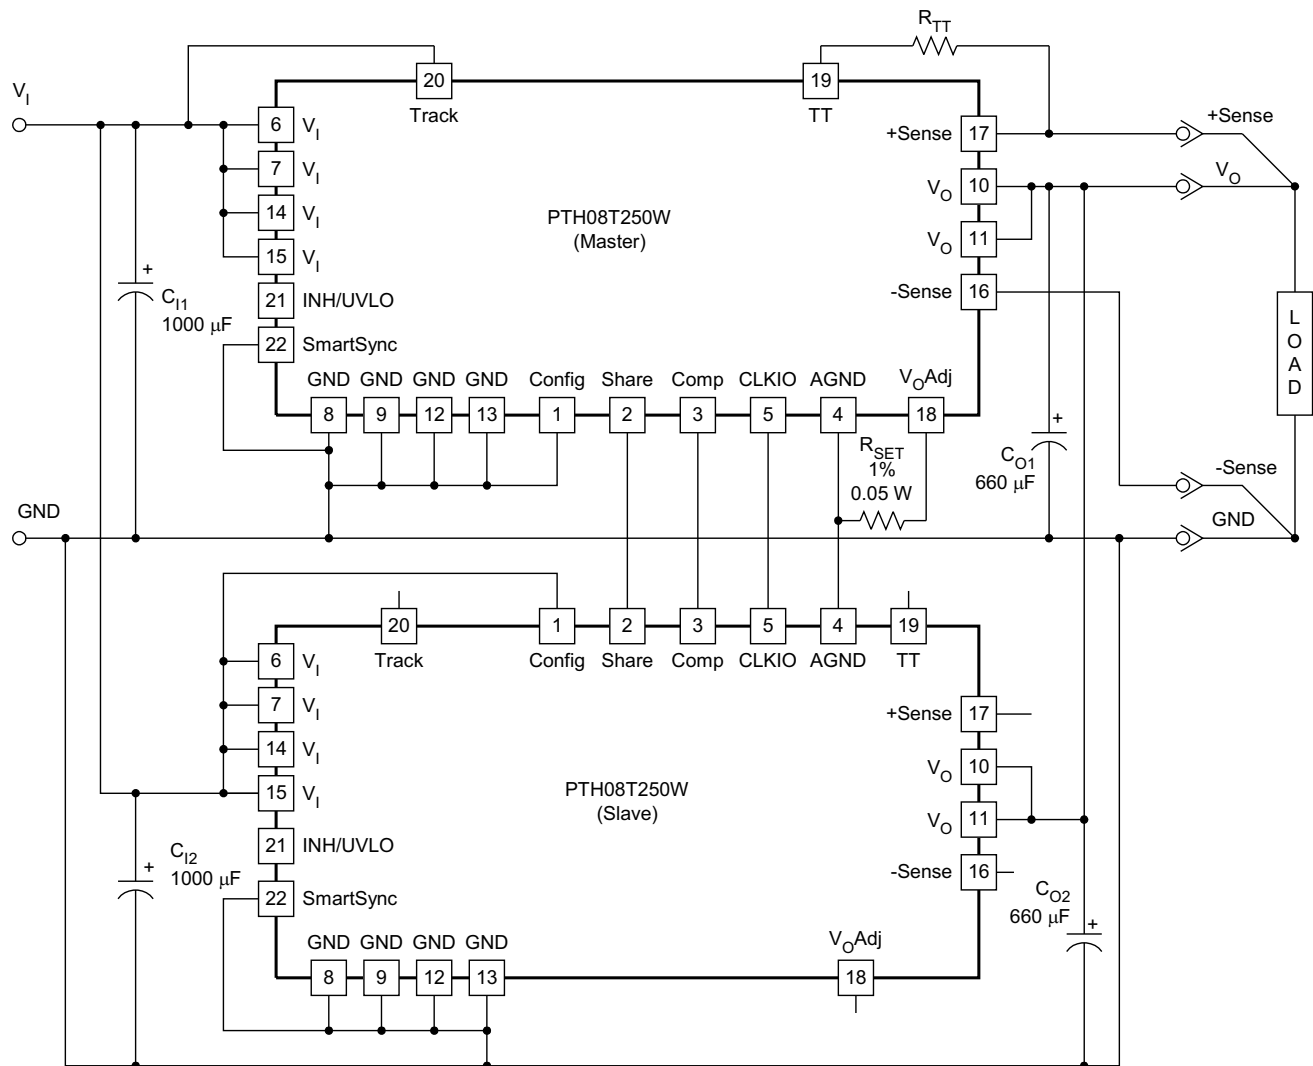
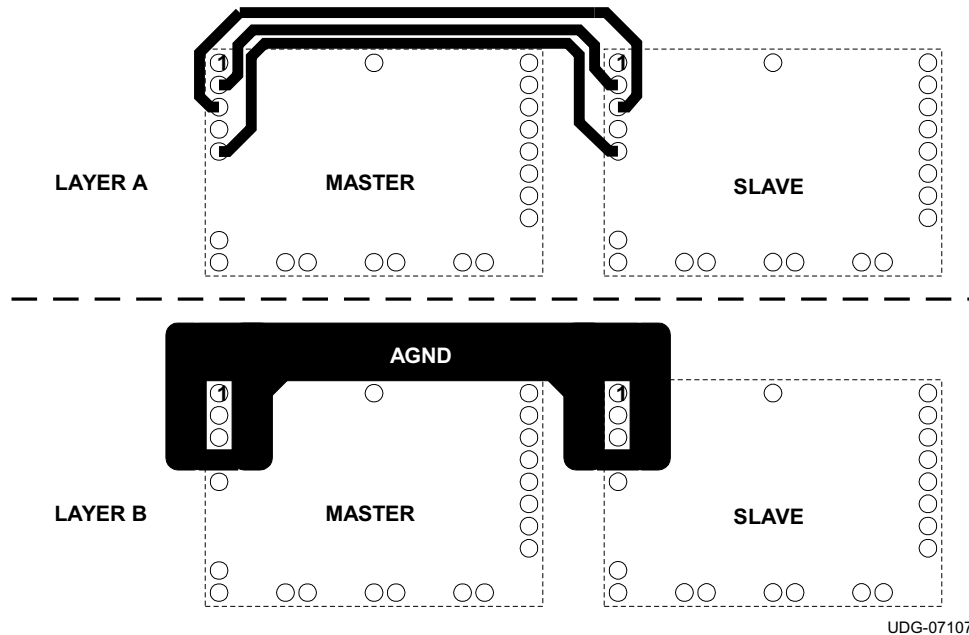

Figure 22. Typical Current Sharing Diagram
Figure 27. Recommended Layout of Inter-Connection Pins Between Two Current Sharing Modules
The PTH08T250W module is capable of being configured in parallel with another PTH08T250W module to share load current. To parallel the two modules, it is necessary to configure one module as the Master and one module as the Slave. To configure a module as the Master, connect the CONFIG pin (pin 1) to GND. The CONFIG pin of the Slave must be connected to V_I . In order to share current, pins 2 thru 5 of both the Master and Slave must be connected between the two modules. See Figure 27 for the recommended layout of pins 2 thru 5. The module that is configured as the MASTER is used to control all of the functions of the two modules including Inhibit ON/OFF control, AutoTrack sequencing, TurboTrans, SmartSync, +/- Remote Sense, and Output Voltage Adjust. See the current sharing diagram in Figure 22 for connections. The MASTER and the SLAVE must be powered from the same input voltage supply.
See Figure 22 and Table 8 for a diagram and connection description of each pin when two PTH08T250W modules are being used in a MASTER/SLAVE configuration.
(1) For more details on the pin descriptions, refer the Pin Functions table.
(2) See Layer A in Figure 27 for recommended layout
(3) See Layer B in Figure 27 for recommended layout
In current sharing applications the V_I pins of both modules must be connected to the same input bus. The V_O pins of both modules are connected together to power the load. The GND pins of both modules are connected via the GND plane. Four other inter-connection pins are connected between the modules. Figure 27 shows the required layout of the inter-connection pins for two modules configured to share current. Notice that the Share (pin 2) connection is routed between the Comp (pin 3) and CLKIO (pin 5) connections. AGND (pin 4) should be connected as a thicker trace on an adjacent layer, running parallel to pins 2, 3 and 5. AGND must not be connected to the GND plane.